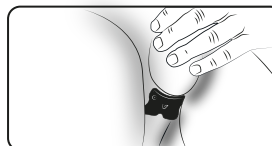

Figure 6
5. Gently lift the scrotum to expose the perineum. Apply the patch to the center of the perineum. The Scrotal Positioning Edge should be closely aligned with the back side of the scrotum (see Figures 6 & 7)